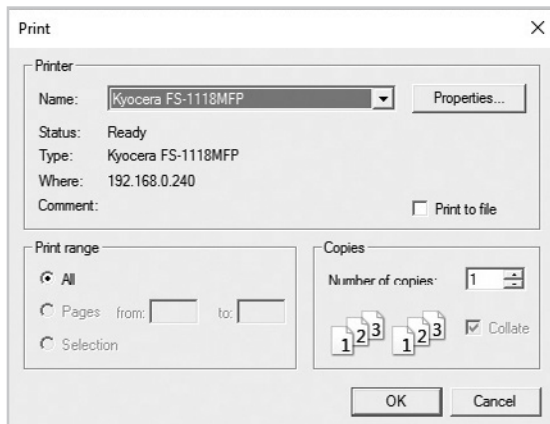

Figure 10-11: Print a program window
2. Select a printer from the printing dialog, and then press the “OK” button. See Figure 10-11.